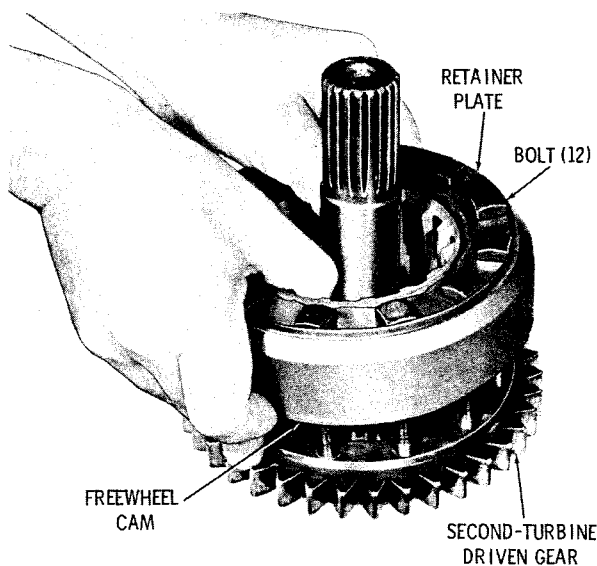

Fig. 6-8. Installing assembled cam onto assembled second-turbine driven gear
(5) Place the retainer plate, flat side first, against the rear face of the assembled cam and cage, and insert the twelve bolts (fig. 6-8). Install the assembled cam onto the assembled second-turbine driven gear.